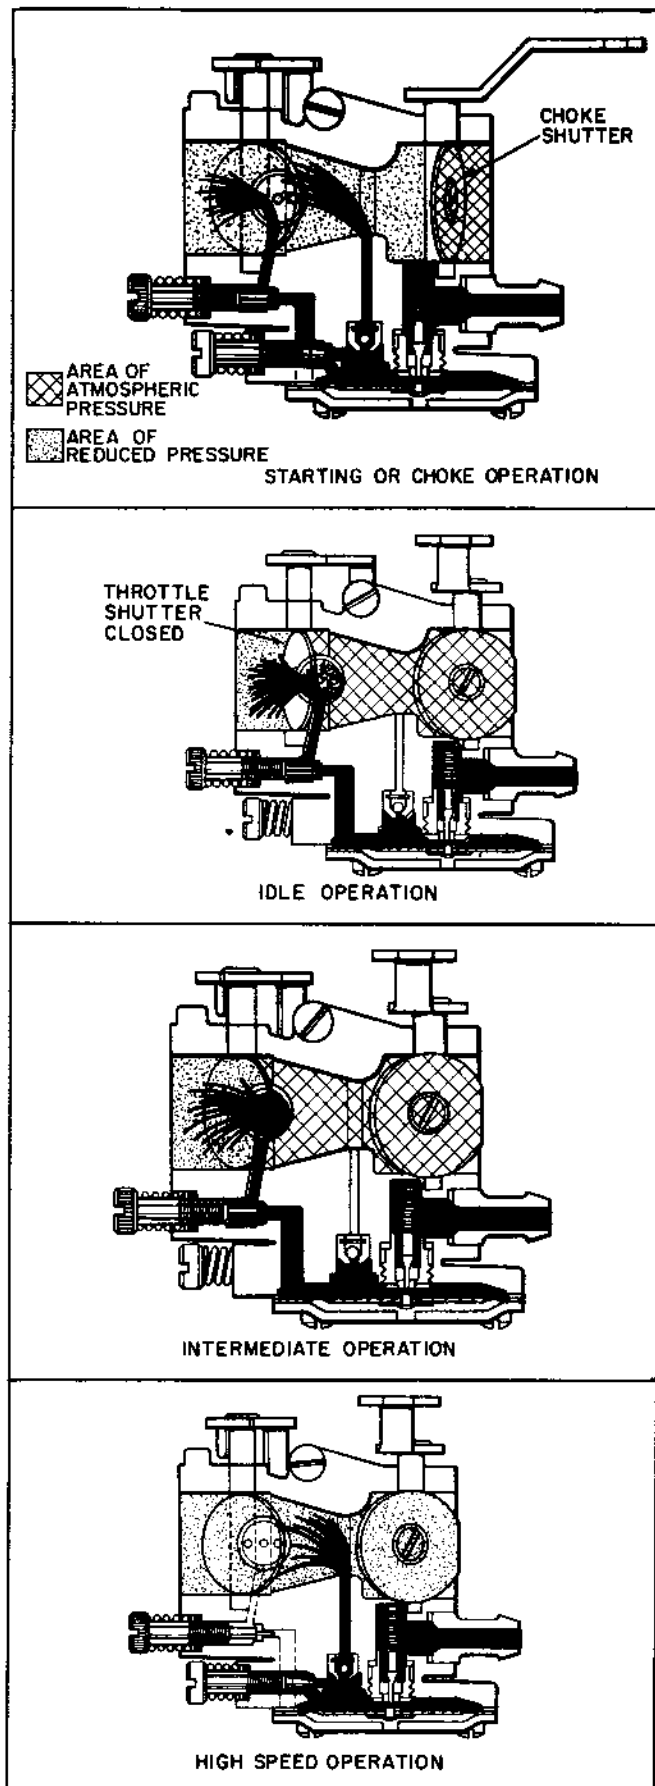

Figure 2-3. Carburetor Operation -
D. CARBURETOR OPERATION. (Fig. 2-3)
- (1) The carburetor is designed to provide the correct fuel mixture to the engine at any operating speed.
- (2) In the CHOKE or start, the choke shutter is closed, and the only air entering the engine enters through openings around the shutter. As the starting device is operated to start the engine, the air pressure in the carburetor is reduced as air is drawn into the engine. Since the air passage is blocked by the choke shutter, fuel is drawn from the main nozzle and from both idle fuel discharge ports and mixes with the air that passes through the throttle shutter. This makes a very rich fuel mixture which is needed to start a cold engine.
- (3) At IDLE, a relatively small amount of fuel is required to operate the engine. The throttle is almost closed, shutting off the fuel supply from all except the one idle fuel discharge orifice, so that the suction created by the engine draws fuel only from that orifice.
- (4) During INTERMEDIATE operation, a second orifice is uncovered as the throttle shutter opens, and more fuel is allowed to mix with the air flowing into the engine.
- (5) During HIGH SPEED operation, the throttle shutter is fully opened. Air flows through the carburetor at high speed. The venturi, which decreases the size of the air passage through the carburetor, further accelerates the air flow. This high speed movement of the air decreases the air pressure, and fuel is drawn into the air stream through the main nozzle that opens into the venturi, mixing with the air in the air passage. As the engine load increases, air is automatically bled into the main nozzle through the air bleed tube located in the air horn. This allows liquid fuel to be metered freely from the main nozzle.